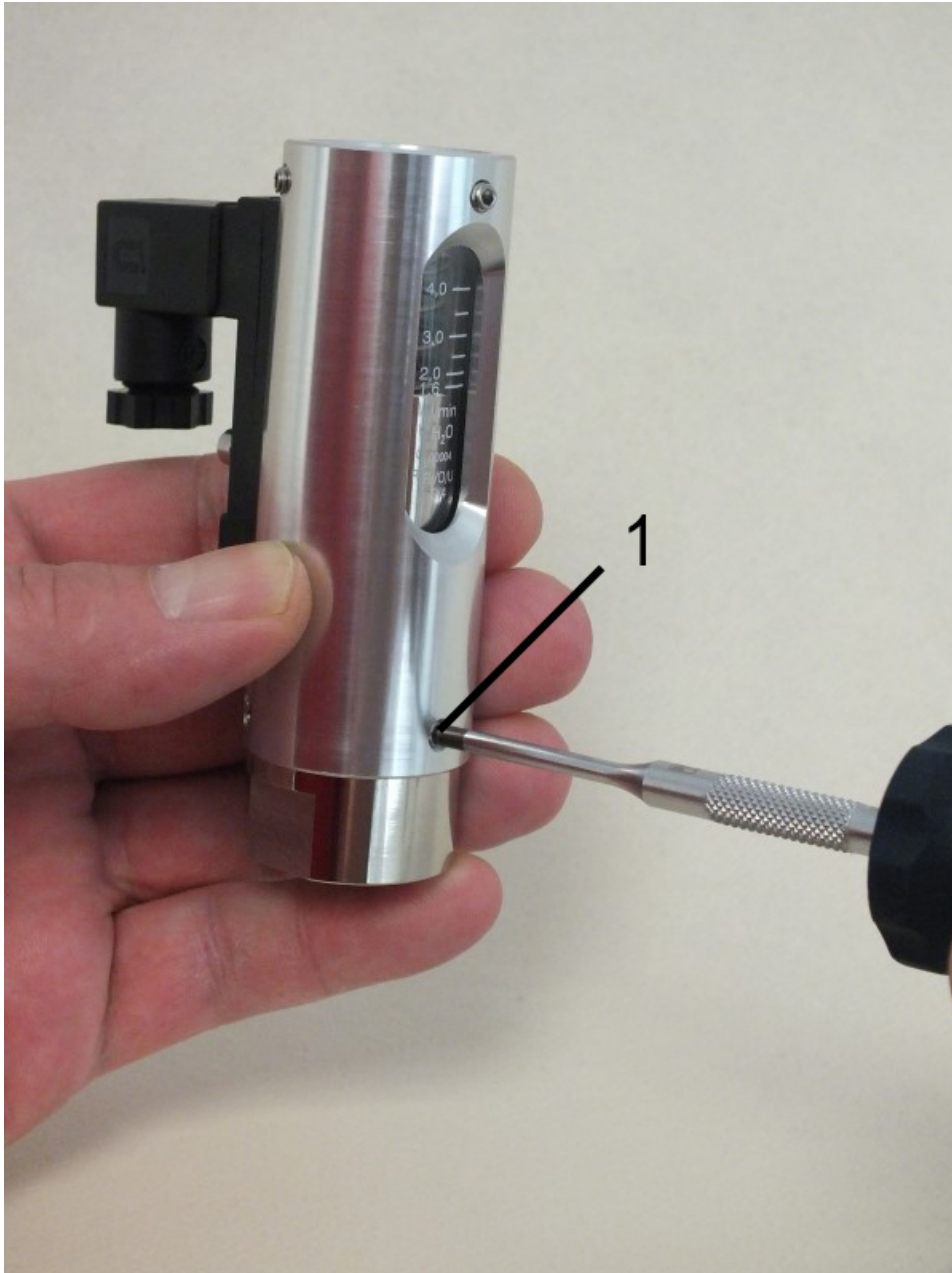

Fig. 46: Secure the process connection (inlet)
9. Secure the process connection (inlet) with 3 hex socket screws (Fig. 46/1) to the device housing, observing the proper torque ➔ Chapter 11.1 "Tightening torque" on page 84